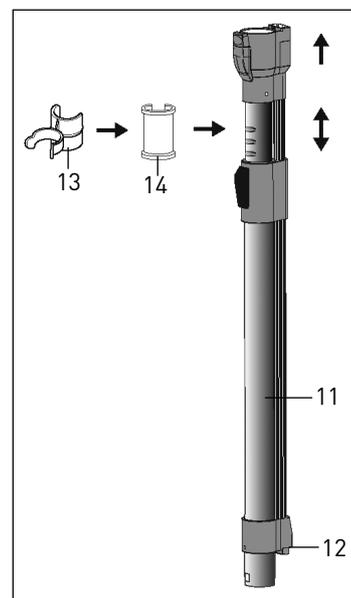

Figure 1
Attaching the Power Head to the Telescopic Tube of your SEBO Canister Vacuum or the Central Vac Wand - Figure 1
Attaching the Brush Clip Adapter to the Telescopic Tube - Figures 1 & 2
Step 1: Pull the telescopic tube at least 3 to 5 positions above the fully-lowered position (figure 1). Press the adapter (14) over the telescopic tube (11) until it snaps on to the tube. The adapter will lock into the indented lines on the tube.